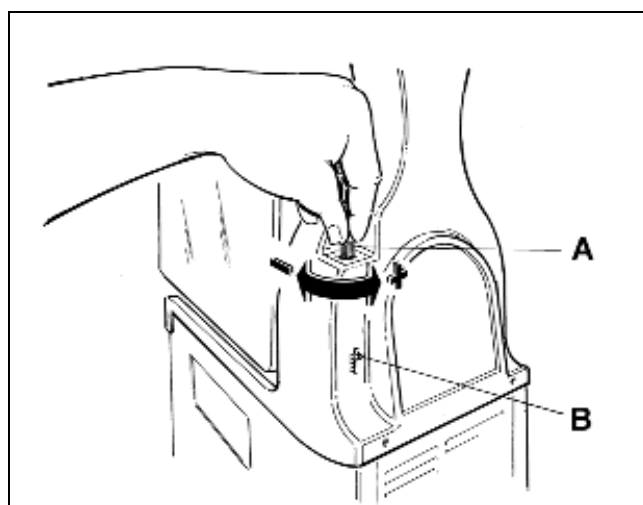

Fig. 27
b) **Adjusting the consistency:** to alter the consistency of the product, turn the screws located on the back of the machine in the following way: clockwise to make the product less dense, counter clockwise to make the product denser (see figure 27).